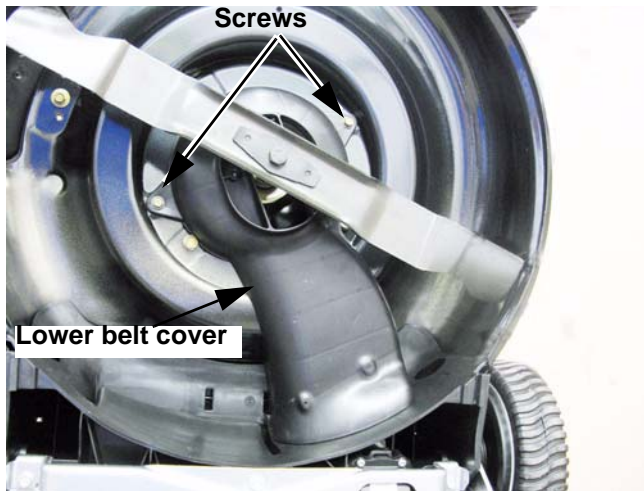

Figure 4.57
4. Remove the screws that fasten the lower belt cover to the mower deck using a 3/8" wrench. The belt cover can remain in place. See Figure 4.57.